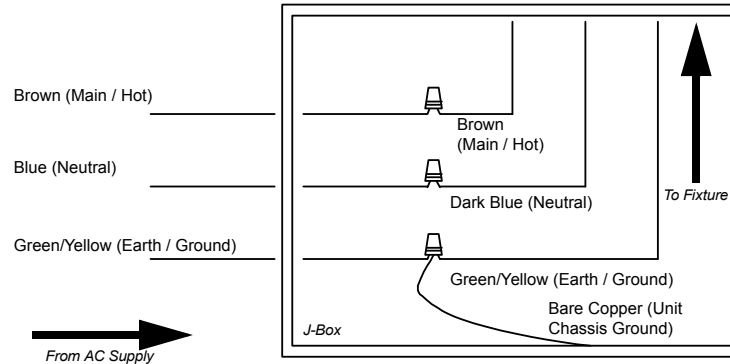

Figure 3: J-Box Electrical Connections - Other Than 120VAC Markets
- 1) Remove cover from Junction (J) Box.
- 2) At J-Box, remove the Thermal Protective Switch as shown in **Figure 3** and discard. It will not be used.
- 4) Connect AC input wiring as illustrated in **Figure 3**. Refer to **"Power Requirements"** on page 4 for power requirements.